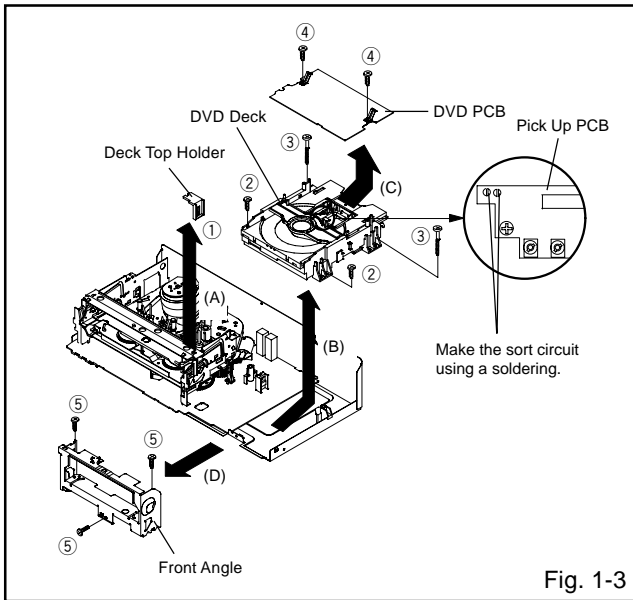

Fig. 1-3
## 1-3: DVD DECK/DVD PCB (Refer to Fig. 1-3)
1. Make the short circuit on the position as shown Fig. 1-3 using a soldering. If you remove the DVD Deck with no soldering, the Laser may be damaged.
2. Unlock the support ① and remove the Deck Top Holder in the direction of arrow (A).
3. Remove the 2 screws ②.
4. Remove the 2 screws ③.
6. Remove the DVD Deck in the direction of arrow (B).
7. Remove the 2 screws ④.
9. Remove the DVD PCB in the direction of arrow (C).
10. Remove the 3 screws ⑤.
11. Remove the Front Angle in the direction of arrow (D).